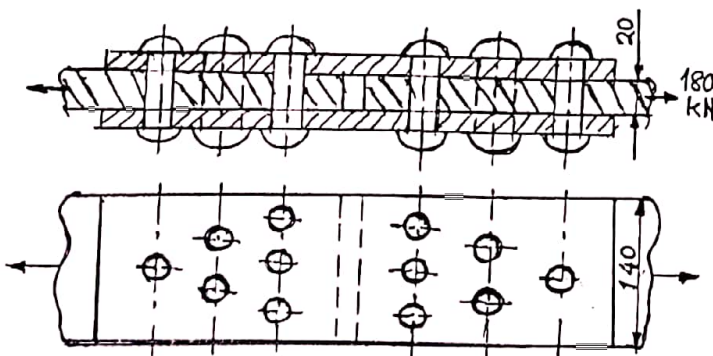
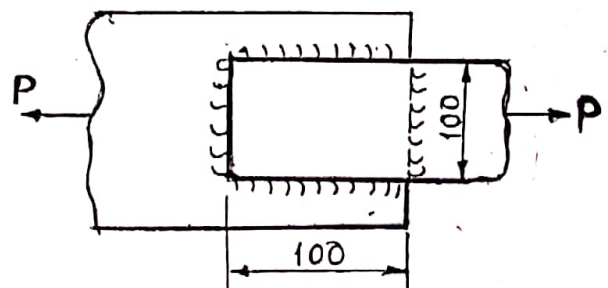

Fig. Q.2
Fig. Q.3
2. A triple riveted double covered butt joint is as shown in fig. Q.2. The joint is to carry a pull of 180 kN. 12 rivets are to be used in the arrangement given. Determine the suitable diameter of the rivets. Allowable stresses are 70 MPa and 150 MPa in shear and crushing respectively. Dimensions are in mm. (8)
3. (a) Give at least two advantages and two disadvantages of welded joints. (4)
(b) Determine the size of the fillet weld to be applied for the joint shown in fig. Q.3. (Dimensions in mm). The maximum value of P is 120 kN. Allowable shear stress of the weld is 100 MPa. (6)